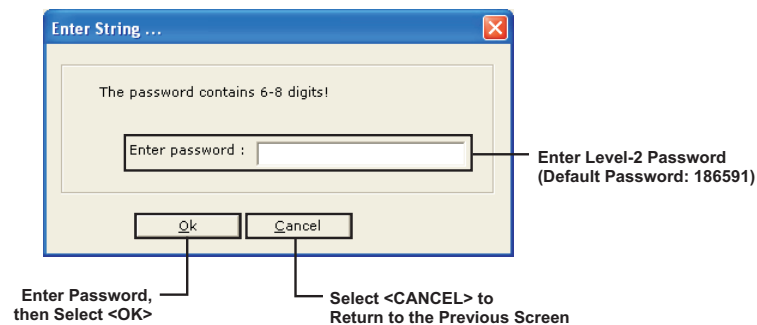

Figure 4-31. Enter Password
1. Select **Tools>Receive Test Log** to copy the contents of the most recent log of initiating device test events to a text file. In response, the prompt for a password (Figure 4-31) is displayed.
Following selection of the Test Log option, FCS immediately displays the password prompt (Figure 4-31) for **Single Control Unit** installations.